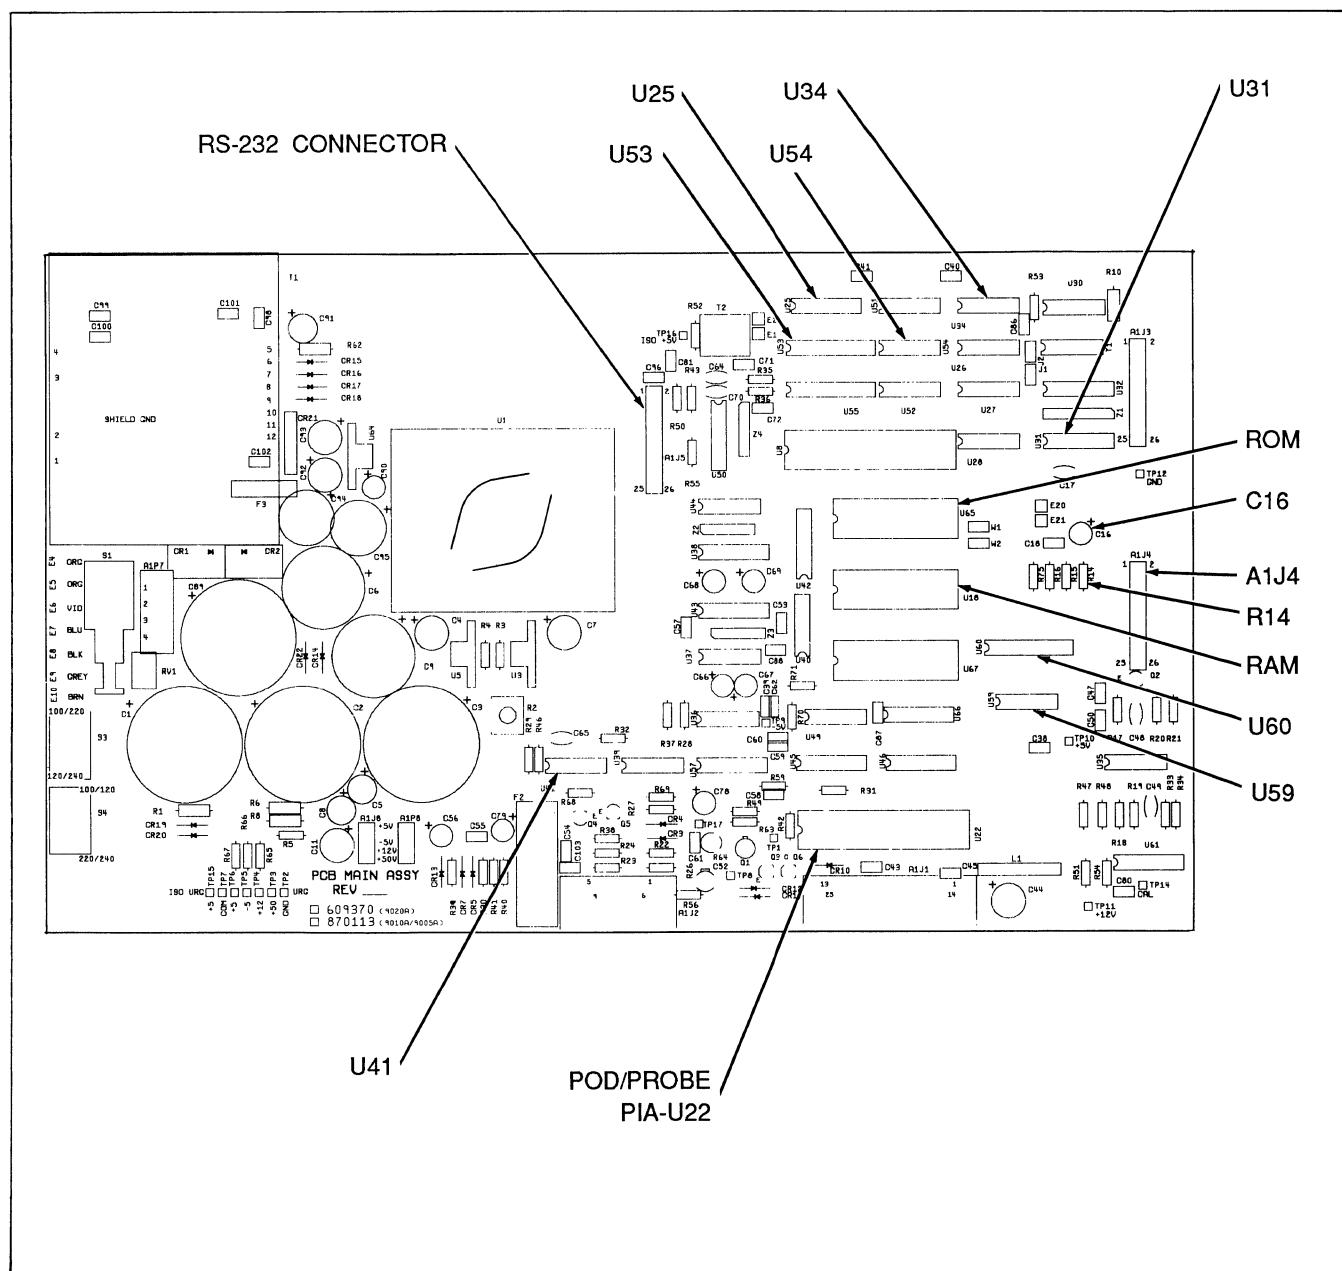

Figure 4-8. Main Assembly Components
probe tip to U31-4 of the UUT. (Refer to Figure 4-8 for the location of U31.) The UUT should beep and display the power-up message FLUKE9000 POWER-UP OK VER-xx (where xx indicates the current software version number) each time the probe is momentarily connected to U31.
4-54. Failure of the pod/probe PIA typically causes communication problems with the pod and/or the probe since all commands and data move through the PIA. Follow the displayed instructions, setting the probe PULSE buttons both out or both in as instructed. Using the following procedure, verify proper operation of the pod/probe PIA. (Figure 4-8 shows the location of the pod/probe PIA U22, U31, U34, and U25.)
1. Turn off the UUT and remove the Display/Keyboard Assembly connector A1J4 (shown in Figure 4-8) to disable the beeper. Using a clip lead, disable the watchdog timer (U31) by jumping R14 (the end adjacent to C16) to TP12 (gnd). Turn on the tester 9010A and then the UUT.
1. Before proceeding make sure the dc supply is disconnected as instructed. Connect the probe tip of a tester 9010A (to be used as a source of sync pulses) to U41, pin 9 of the UUT; connect the ground lead to TP8 (shown in Figure 4-8).